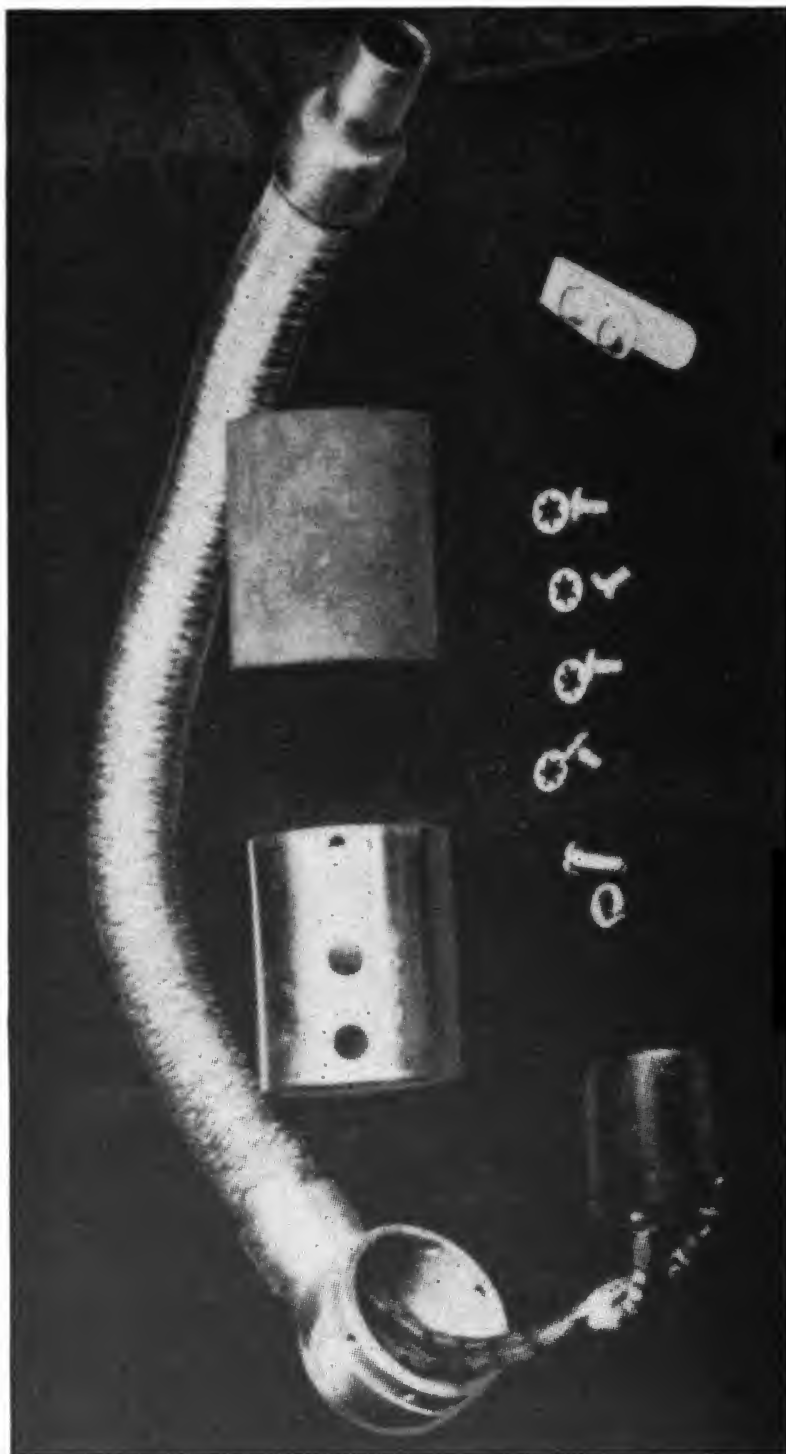

FIGURE 66.—Q-type plug, completely disassembled.
(10) If the assembly requires a plug on the opposite end of the conduit the same procedure may be used on the other plug.
(11) If the flexible conduit is to be joined to a piece of rigid conduit by means of a union, a plain end ferrule must be sweated on the flexible conduit. The wires are then pushed through the union and into the rigid conduit until the two can be fastened together by the union.
(12) If the flexible conduit terminates at a junction box a plain end ferrule should be sweated onto the conduit and a conduit clamp used. The wires are pushed through the clamp and into the junction box. The conduit clamp is then tightened and the wires, which are recut to the proper length if necessary, are soldered to the terminals in the junction box.
(13) Figure 66 shows a PL-Q type plug completely disassembled. Attaching this type plug to flexible conduit requires slightly different procedure, as is evidenced from the picture. The base of the plug is sweated directly to the flexible conduit, as no ferrule or attaching nut is required. The cable is soldered to the plug terminals in the usual manner. The plug is assembled by inserting the latch in the shell, holding it down with a screw driver while the shell is slipped in place and fastened with the screws. If the cable is cut to the right length there will be neither crowding nor stretching of the conductors. When possible, it will facilitate soldering if the cable is cut slightly longer than necessary and tightened up to the correct length after soldering by pulling from the other end of the conduit.
(14) When pin type plugs are used the following steps are suggested: